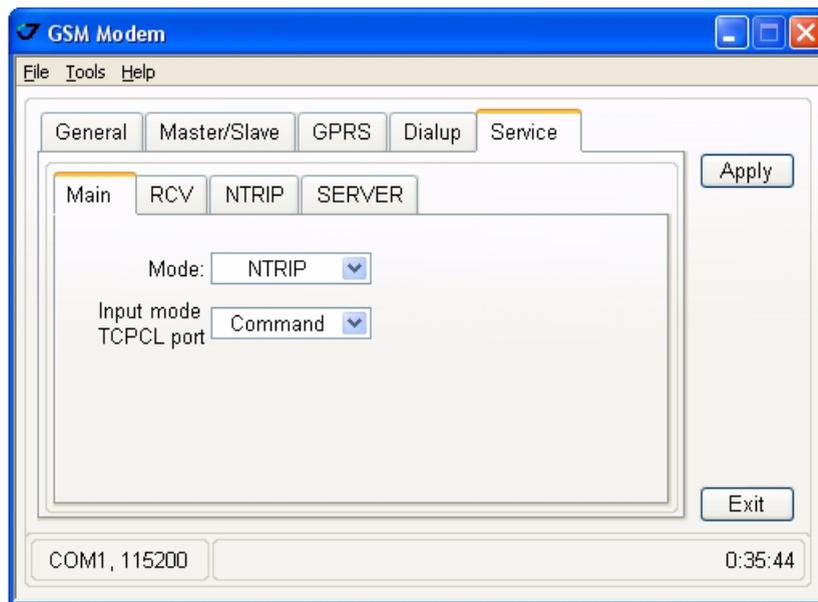

Figure 3-8. Service tab
3. In the *Service* tab *Main* subtab specify the following parameters (Table 3-5) and click *Apply* (Figure 3-8 on page 50).